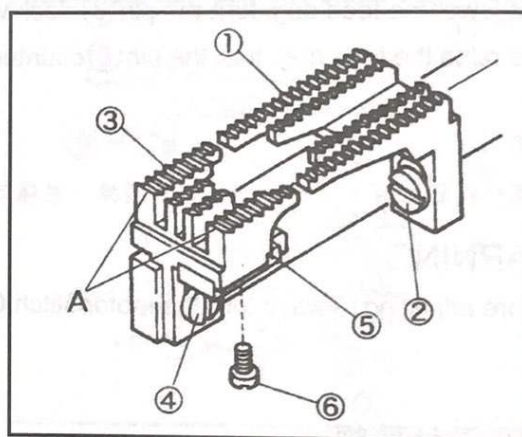

Fig.59
(Fig.59)
Fix the needle guard(rear) ⑤ on the main feed dog and tighten it at the most rear position with the screw⑥ slightly. (Fig.59)